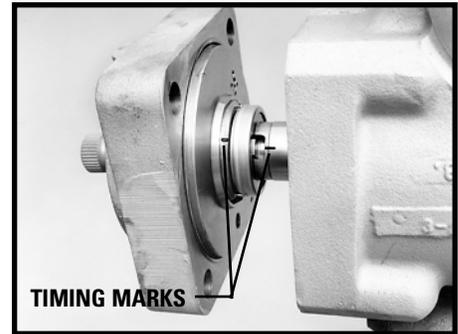

Figure 134
28. Locate the timing mark on the valve sleeve (14), a faint, punched mark on the chamfered edge of the valve sleeve or an indented mark on the front face, of the sleeve. SEE FIGURE 132. Locate the scribed timing mark on the worm shaft. SEE FIGURE 62, page 25. Next, grasp the valve housing/ valve sleeve assembly with your thumbs on the valve housing face and your fingers applying pressure to keep the valve sleeve in the valve housing. SEE FIGURE 133. Align the previously located timing marks and place the valve housing/valve sleeve assembly onto the input shaft end of the worm shaft/ input shaft (16) until the drive lugs are fully engaged in the valve sleeve slots. SEE FIGURE 134.